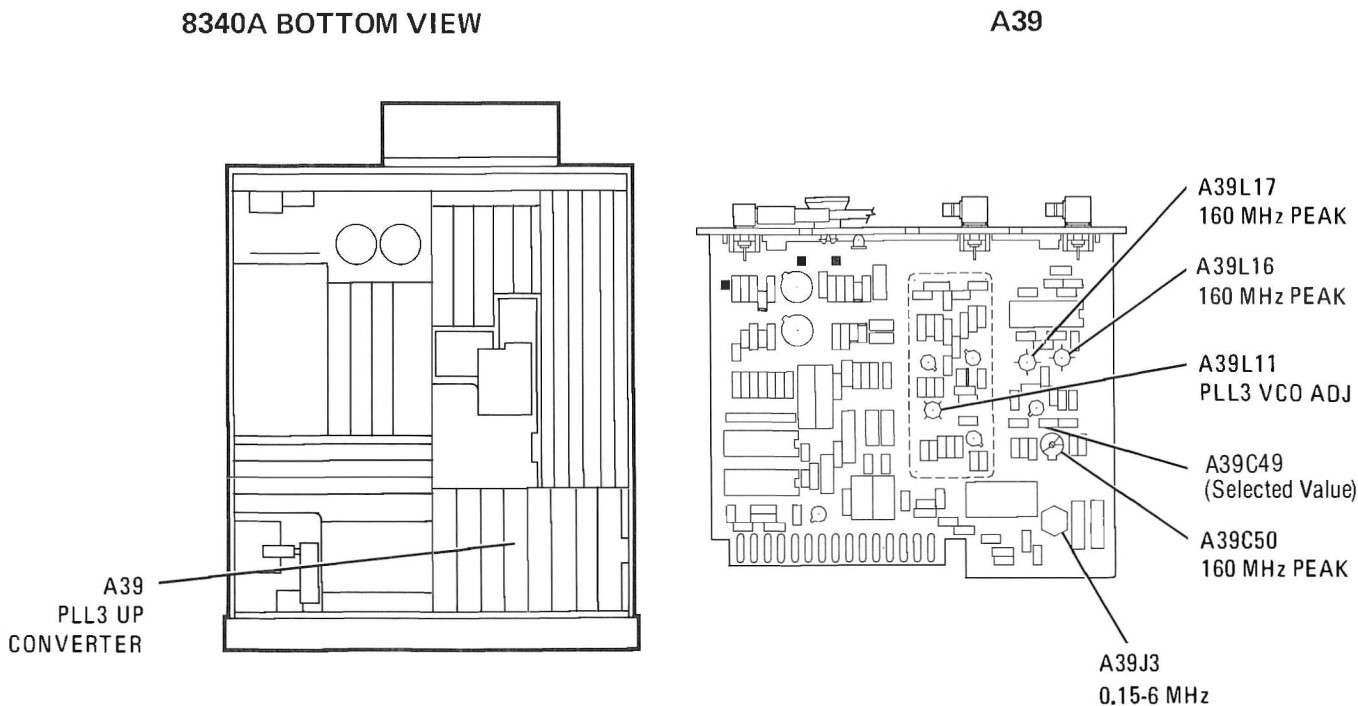

Figure 5-12. Location of PLL3 Adjustments
35. Adjust A39L16, A39L17, and A39C50 160 MHz PEAK for maximum signal level at 160 MHz. Iteration of L16 and L17 adjustment may be necessary. Refer to Figure 5-12 for location of adjustments.